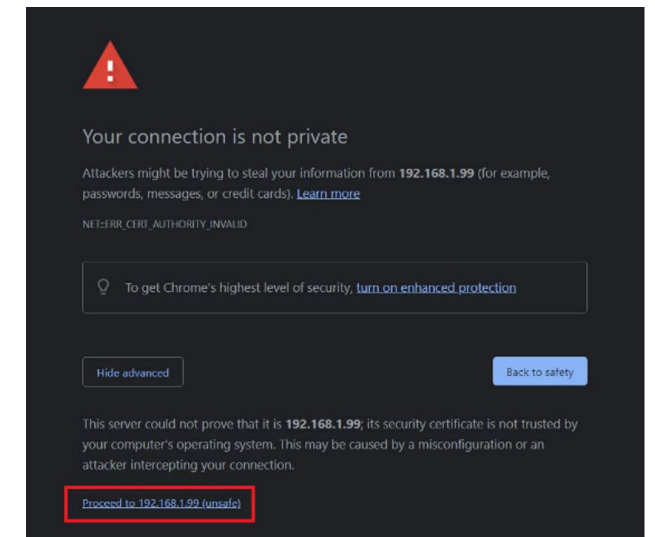

Figure 4
9. When using a Chrome browser, the following message will appear. This is a common warning message when logging into routers. If this message occurs, select "Advanced" option and then select "Proceed to 192.168.XX.XXX (unsafe)". (Figure 4)